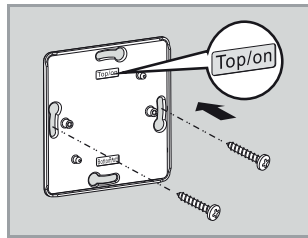

Fig. 11
- Mount the back plate on the box using screws (see Fig. 11).